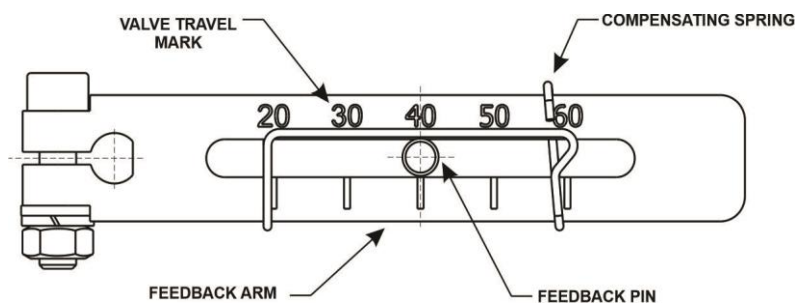

Figure 1.16 – Positioning feedback pin in feedback arm
- Slide the adjustment feedback pin in the slot of the slotted bracket until the pin is in line with the desired actuator travel marking on the feedback arm. The compensating spring must be positioned such that the feedback pin sits in the central side of the compensating spring's slide area. Tighten the hex nuts. As shown in **figure 1.16**.